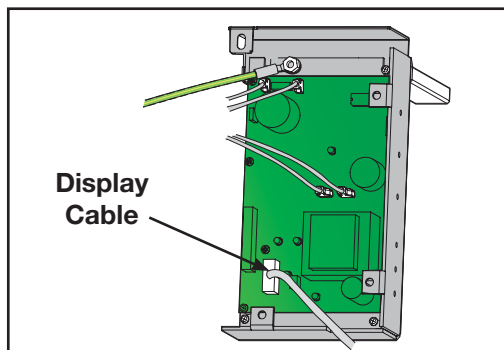

Figure 11
- A. Unplug the display cable from the control board and remove cable from drive frame assembly. See Figure 11.
- B. Plug display cable in to display jack on control board. See Figure 11.